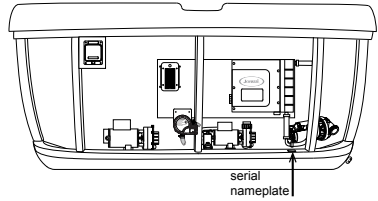
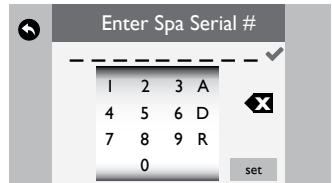

Figure 10.2b
Figure 10.2c
Registering your spa is important in order to validate your warranty, page 29. In order to register you will need to have the spa serial number, Figure 10.2b, then you will need to register online in order to receive a passcode (not applicable to export models). A passcode is only given for North American models only. The passcode must be entered on the control panel in order to unlock the Registration Lockout screen, Figure 10.2c.
2. Input the 9-digit serial number, Figure 10.2c. Use the letters A, D or R if your serial number begins with a letter.